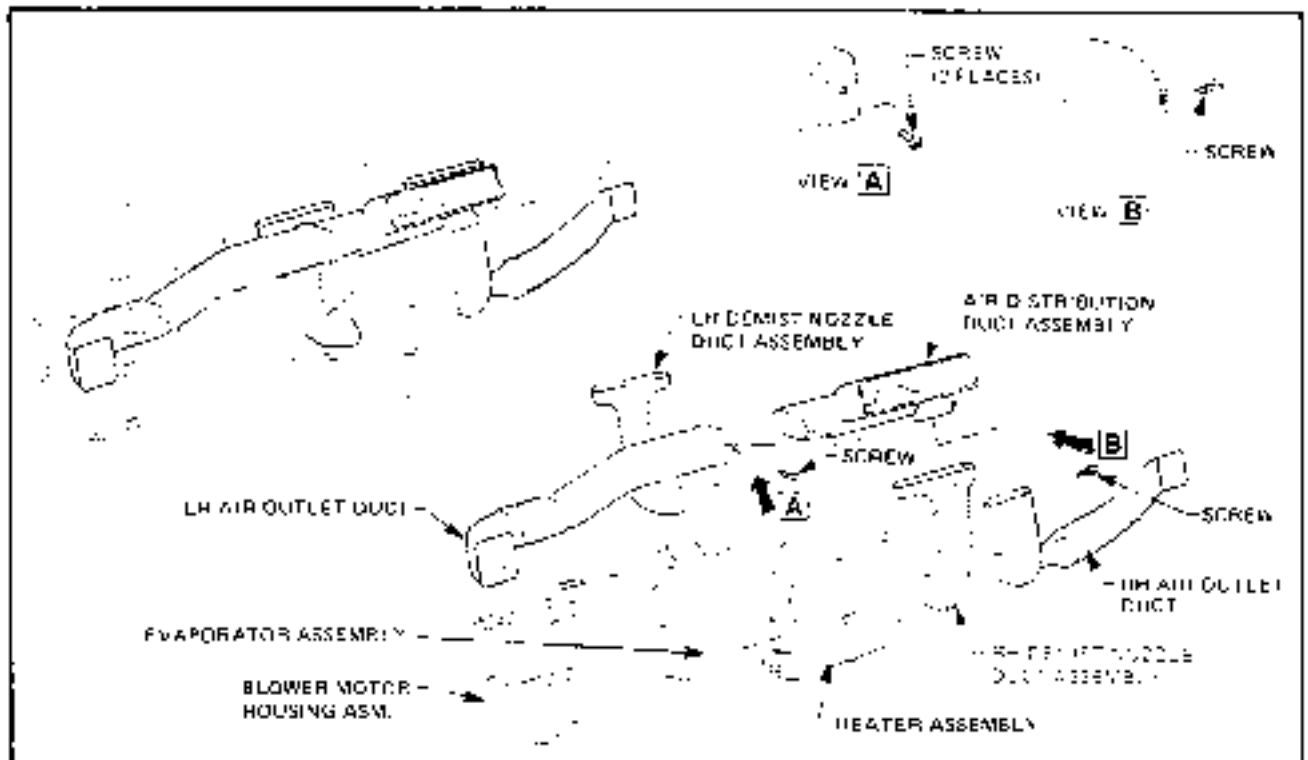

Figure 2B-31
5. Remove heater case to panel cover assembly, lower instrument panel extension, touch switch control panel and centre nozzle and instrument location frame illustrated in Fig. 2B-29.
6. Remove combined instrument assembly illustrated in Fig. 2B-30.
8. Remove screws securing left hand and centre of instrument location cover to instrument panel pad and frame illustrated in Fig. 2B-30.